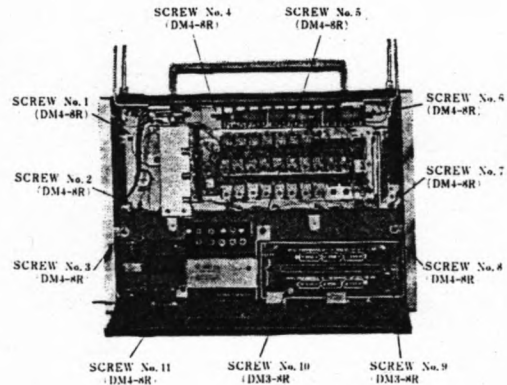

Fig. 2
6. Remove two (2) red adaptor mounting screws (Nos. 5 & 11) in Fig. 2.
8. Remove seven (7) red chassis mounting screws (Nos. 1~4, & 6~8) in Fig. 2.
9. Remove two (2) red battery case mounting screws (Nos. 9~10) in Fig. 2.